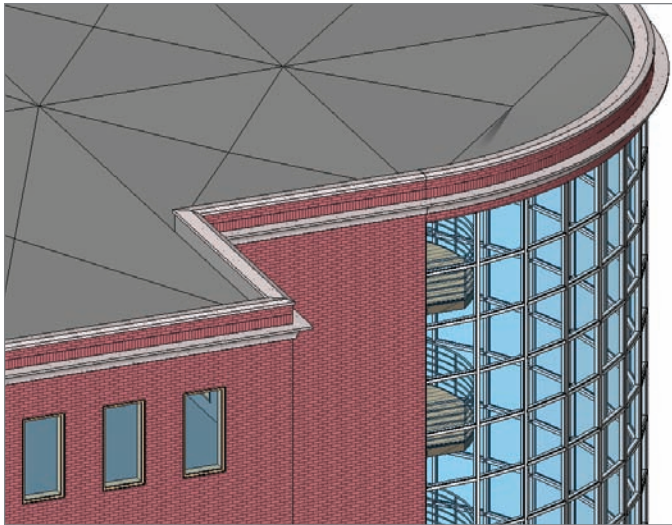

FIGURE 17.12 The new precast concrete wall sweep
16. Zoom in on the walls—there should be a sweep, as shown in Figure 17.12.